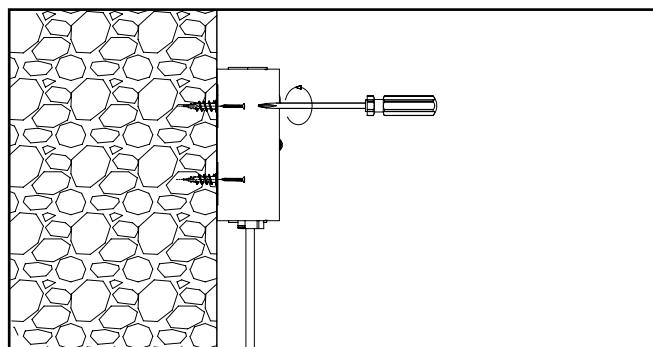

Figure 8.
2. Connect power supply to building structure. See Figure 8.